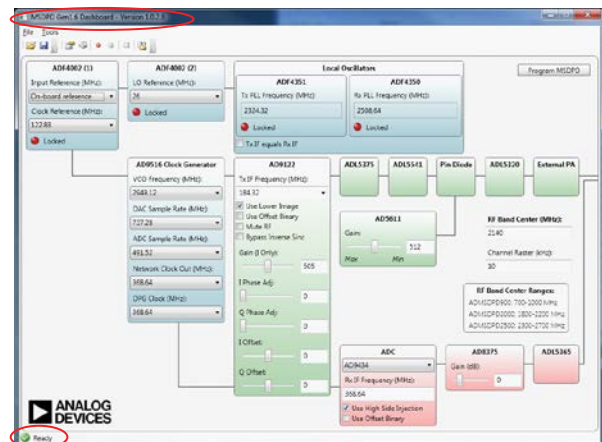

Figure 7. MSDPD Dashboard Software Ready
8. Launch the MSDPD Dashboard program. A **SPIController** window also launches, this can take up to 30 seconds. At startup, an error message may appear. If so, click **OK**. The **SPIController** window must launch before the board can be programmed. Once the **SPIController** window opens, it can be minimized; however, do not exit the **SPIController** window. Ensure that the correct MSDPD Dashboard is installed by checking that the title refers to the **MSDPD Gen1.6 Dashboard**. When the software is ready, there is a green ready signal in the lower left corner of the MSDPD Dashboard program (see Figure 7).